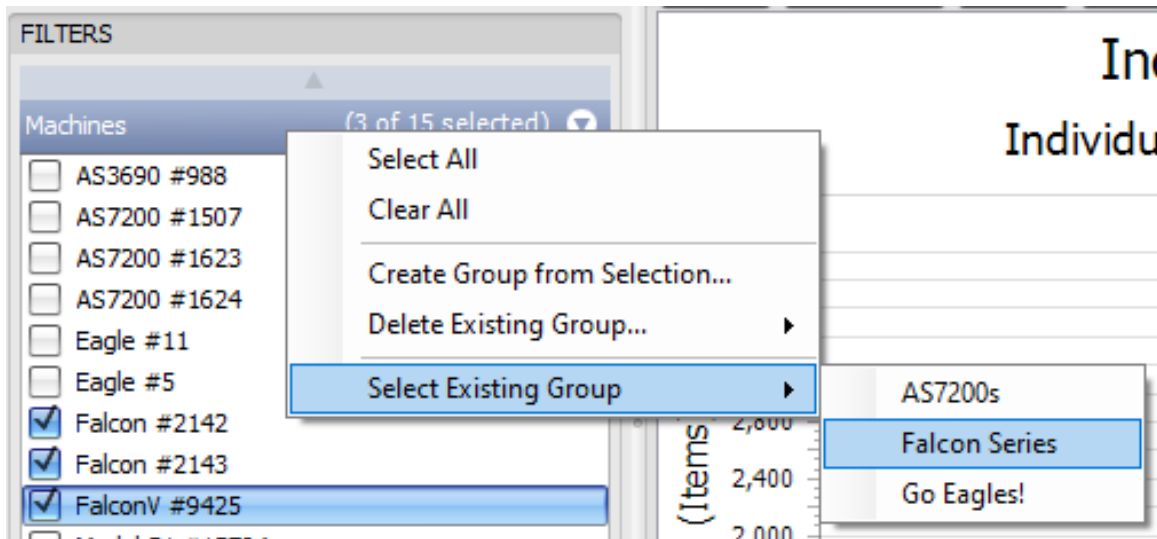

Figure 5-12: Select Existing Group window
3. In the pop-up window, click the **Select Existing Group...** drop-down arrow (Figure 5-12).